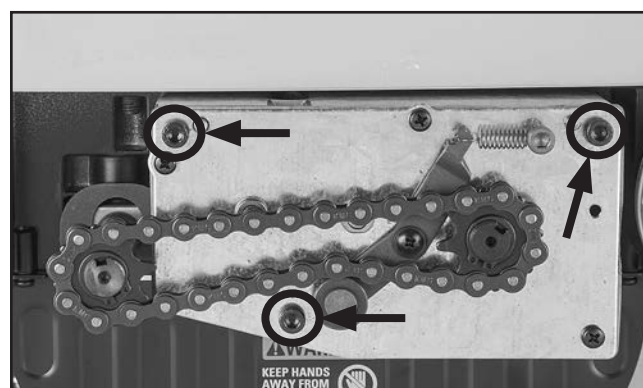

Figure 9. Gearbox attachment screws.
24. Unfasten gearbox attachment screws (see **Figure 9**).